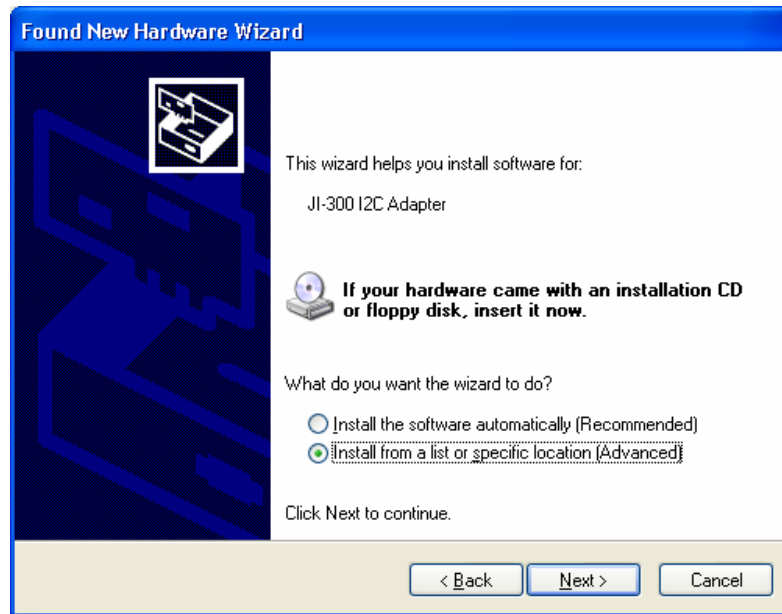

Figure 2. Found New Hardware Wizard Window #2
6. At the "Found New Hardware Wizard" window (Figure 2), select "Install from a specific list or location (Advanced)", and then click "Next".